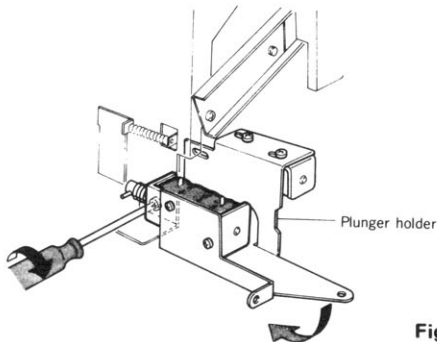

Fig. 36
- 1) Loosen the plunger holder screw, and drop in the holder. (Refer to Fig. 36) (Make sure that the plunger is not brought into contact with the flywheel).